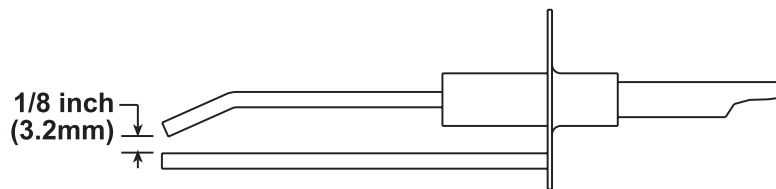

Figure 19. Ignitor Spark Gap
- For the ignitor (see Figure 15 for location), disconnect the wire and remove the screw and ignitor. Clean the ignitor assembly with an emery cloth before reinstalling. The spark gap (see Figure 19) must be maintained to 1/8 inch.